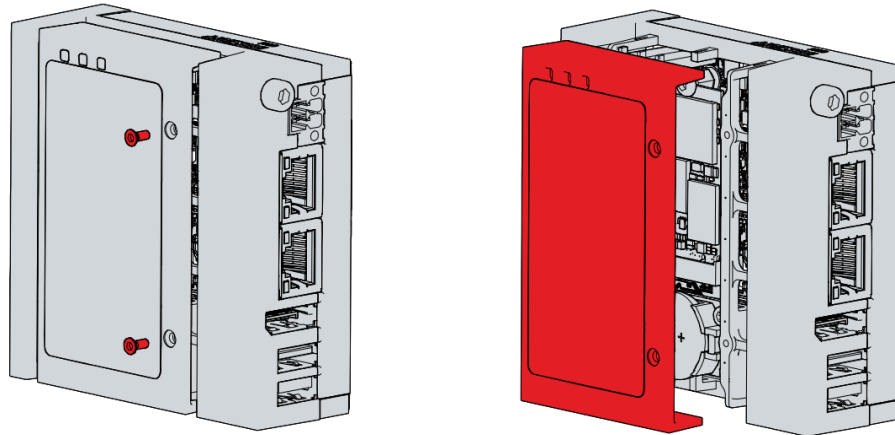
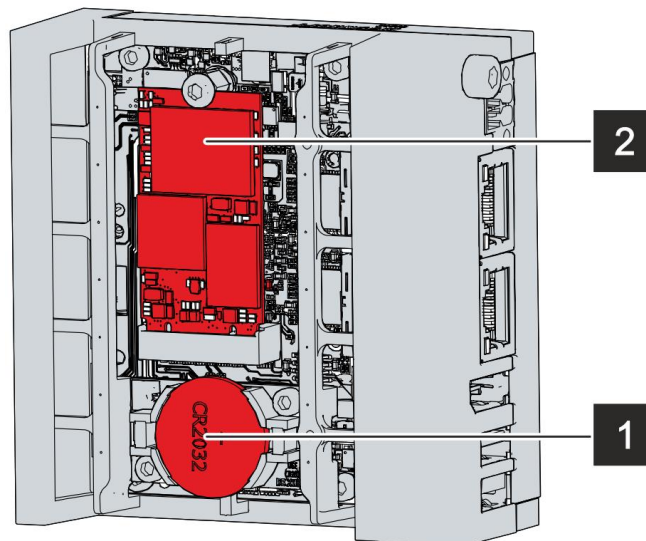

Figure 24. Access to battery and storage media
Figure 25. Battery (1) and Storage Media (2)
1. Before working on the PLC establish electrostatic discharge (ESD) protection to prevent damage to the device through electrostatic discharge. The replacement of device components without ESD protection can lead to functional impairment and destruction of the device. To gain access to the battery and the storage medium remove the cover on the left-hand side of the device by removing the two Torx TX6 screws as shown in **Figure 24**. With the cover removed the battery and storage media are shown in **Figure 25**.